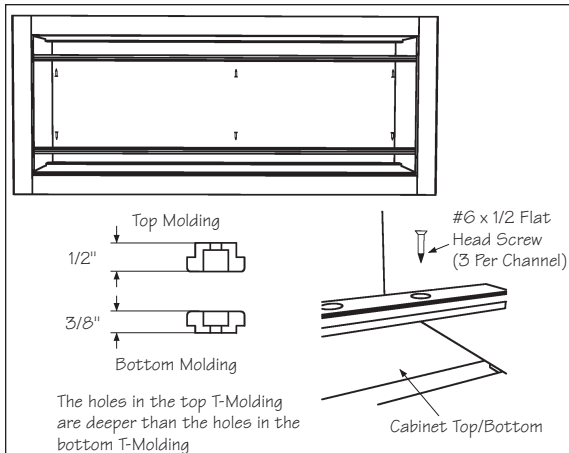

Figure 1
- 2** Remove the T-Molding by removing the screws. Gently remove the T-Molding from the groove in the cabinet. Be sure not to lose the screws. You will need them later to reattach the new T-Molding. See Figure 1.
- 1** Place the T-Molding into the groove in the cabinet top/bottom. Be sure to use the correct T-Molding for the top or bottom of the cabinet. See Figure 1.